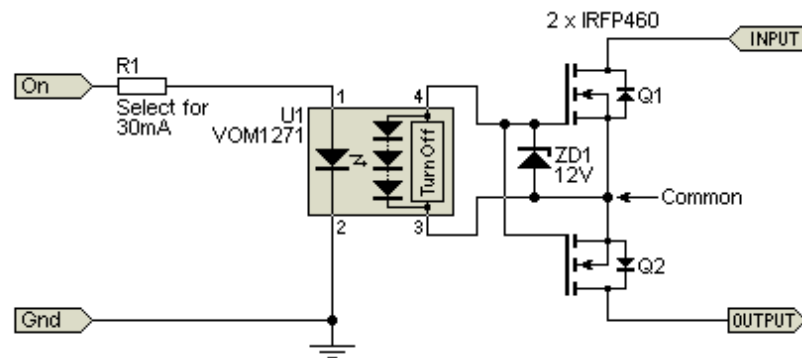

Figure 3.4 - Photovoltaic MOSFET Relay
You can also get integrated MOSFET relays, usually in a six or eight-pin package. An example is the LCA110, rated for 350V at up to 100mA RMS or 200mA DC, and there are many similar devices. This type of IC almost always uses a photovoltaic optocoupler, and turn-on/ turn-off times are rather leisurely - 3ms is quoted for 5mA LED current. The TLP592A(F) is another, rated for 60V AC/ DC, and 500mA RMS or 1A DC. Turn-on time is quoted as 2ms (max) and turn-off is 500 μ s (max). There are numerous similar devices, with many using circuitry similar to that shown in Figure 3.4 (but usually without the 'turn-off' circuit). I expect that a zener is included internally, but its not mentioned in the datasheets.